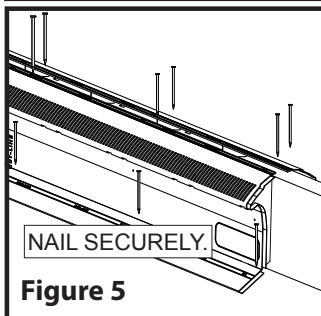
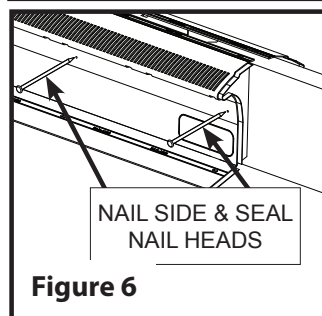

Figure 5
Figure 6
- Place the TRV-4 against the ridge board and bend the bottom hinged flange to the pitch angle of the roof so it conforms to the roof slope. Nail the TRV-4 vent to the side surface of the ridge board with 1 3/4" minimum nails through the molded nail holes. (See Figure 6) Nail the bottom flange with 3/4" minimum roofing nails using the molded nail holes. (See Figure 5) Nail the top flange with 3/4" minimum roofing nails using the molded nail holes. (See Figure 5)